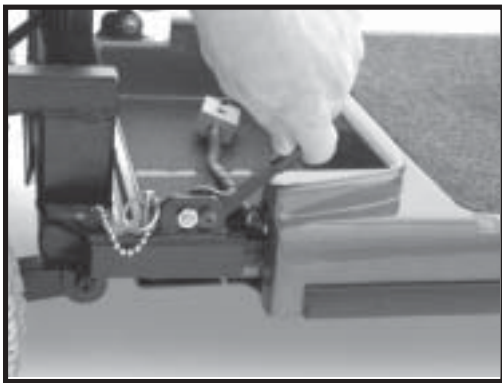

Figure 22. Locking Cam Levers (Unlocked Position)
9. Push the locking cam levers forward to the unlocked position and remove the ball detent pins. See figures 22 and 23.